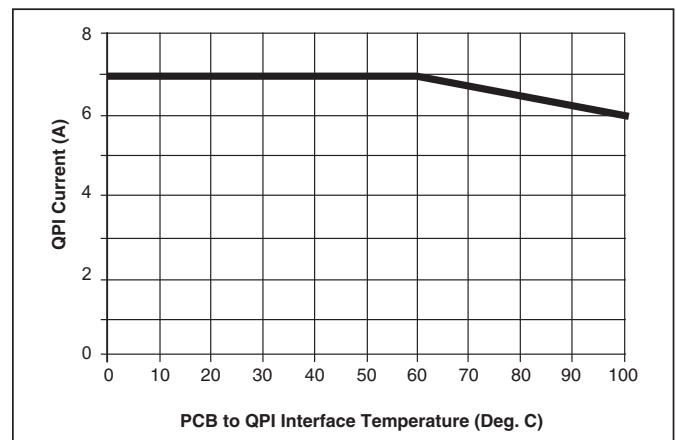
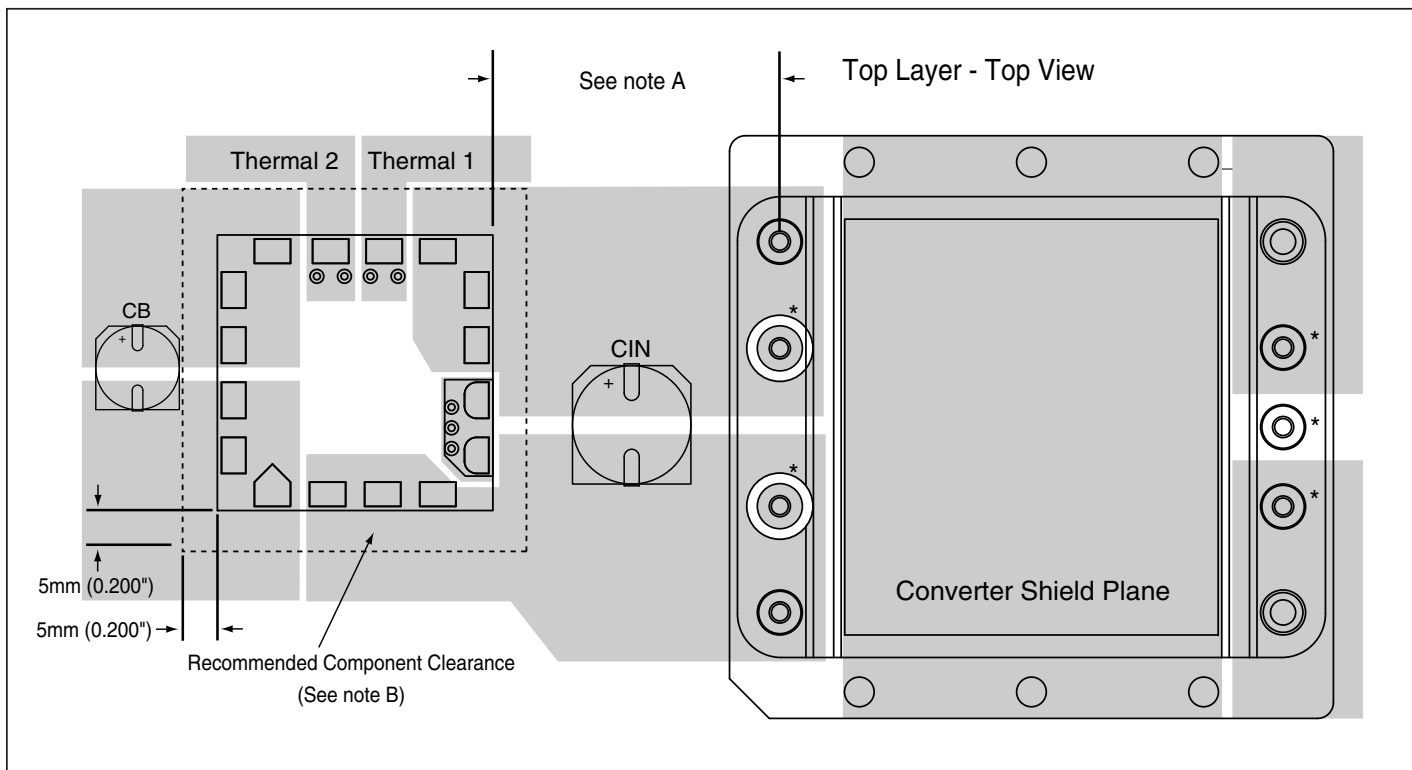

Figure 5 – QPI-4 current derating curve.
Figure 9 – Recommended layout for top layer of PCB. Pattern shows optional pins (*) dependent on converter used in design.
- -40° to +100°C PCB temperature (See Fig. 5)
Note 1: Refer to Figures 9 & 10 for PCB layout guidelines to achieve this thermal resistance when re-flowed onto the PCB.
Note 3: Refer to Figure 5 for current derating curve.
Application of the QPI-4 requires PCB layout practices similar to those used with passive EMI filters. The circuit in Figure 6 and the PCB layout in Figures 9 & 10 should be used as a design guide to ensure successful application of the QPI-4. Refer to the application note QPI- AN1 for additional PCB layout recommendations.
The current derating curve shown in Figure 5 should be used when the PCB temperature in close proximity of the QPI-4 exceeds 60°C. For example, the QPI-4 will support up to 6.5 A of current or 312 W from a 48 Vdc bus at an 80°C interface temperature. Temperature should be measured at the PCB interface to the QPI-4 on the Bus +/- pads or the QPI+/- pads. Refer to Figures 9, 10 & 12 for PCB layout recommendation.
Figure 12 – Recommended PCB solder mask dimensions and layout. Use 1.3mm clearance around shield pads 5 & 6 to adjacent lands. See Figures 9 & 10 for recommended connection layouts.